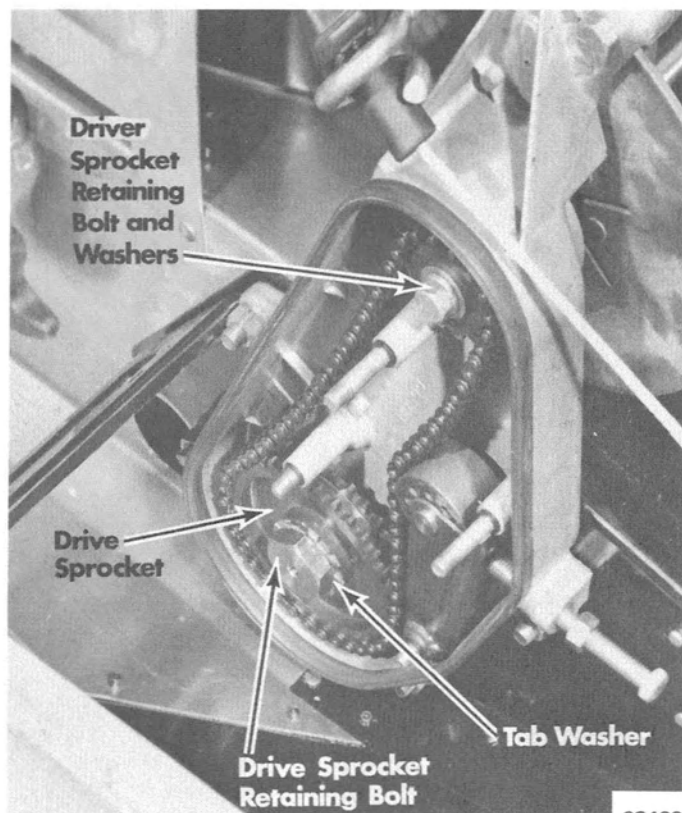

Figure 5. Drive Chain and Sprockets
NOTE: Removal of drive sprocket (bottom sprocket - Figure 5) is not necessary if removal of only the drive chain is desired.
7. Straighten locking tabs on tab washer which secures drive sprocket retaining bolt. (Figure 5)
8. Apply brake and remove drive and driver sprocket retaining bolts and washers. (Figure 5)
15. Install driver sprocket retaining washers and bolt. (Figure 5)
17. Bend locking tabs on drive sprocket tab washer (Figure 5) against drive sprocket retaining bolt. (Figure 5)